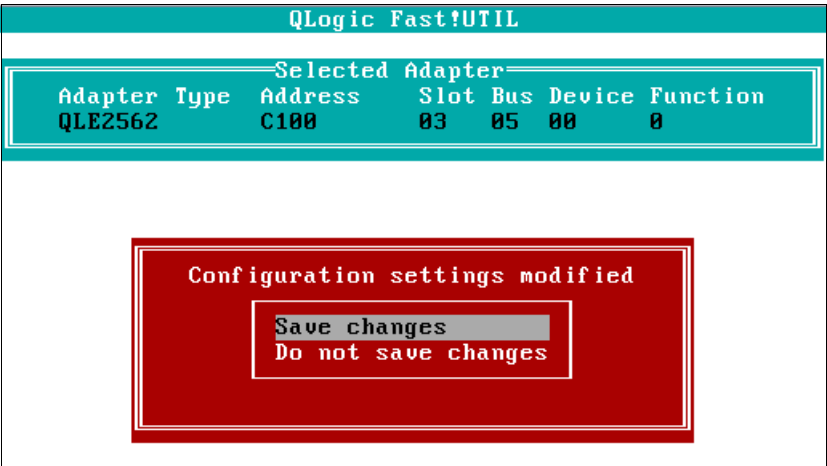

Figure 3-23 Save config. changes
15. Press the <Esc> key twice to exit out of the menus and select **Save Changes** to save the changes, as shown in Figure 3-23.